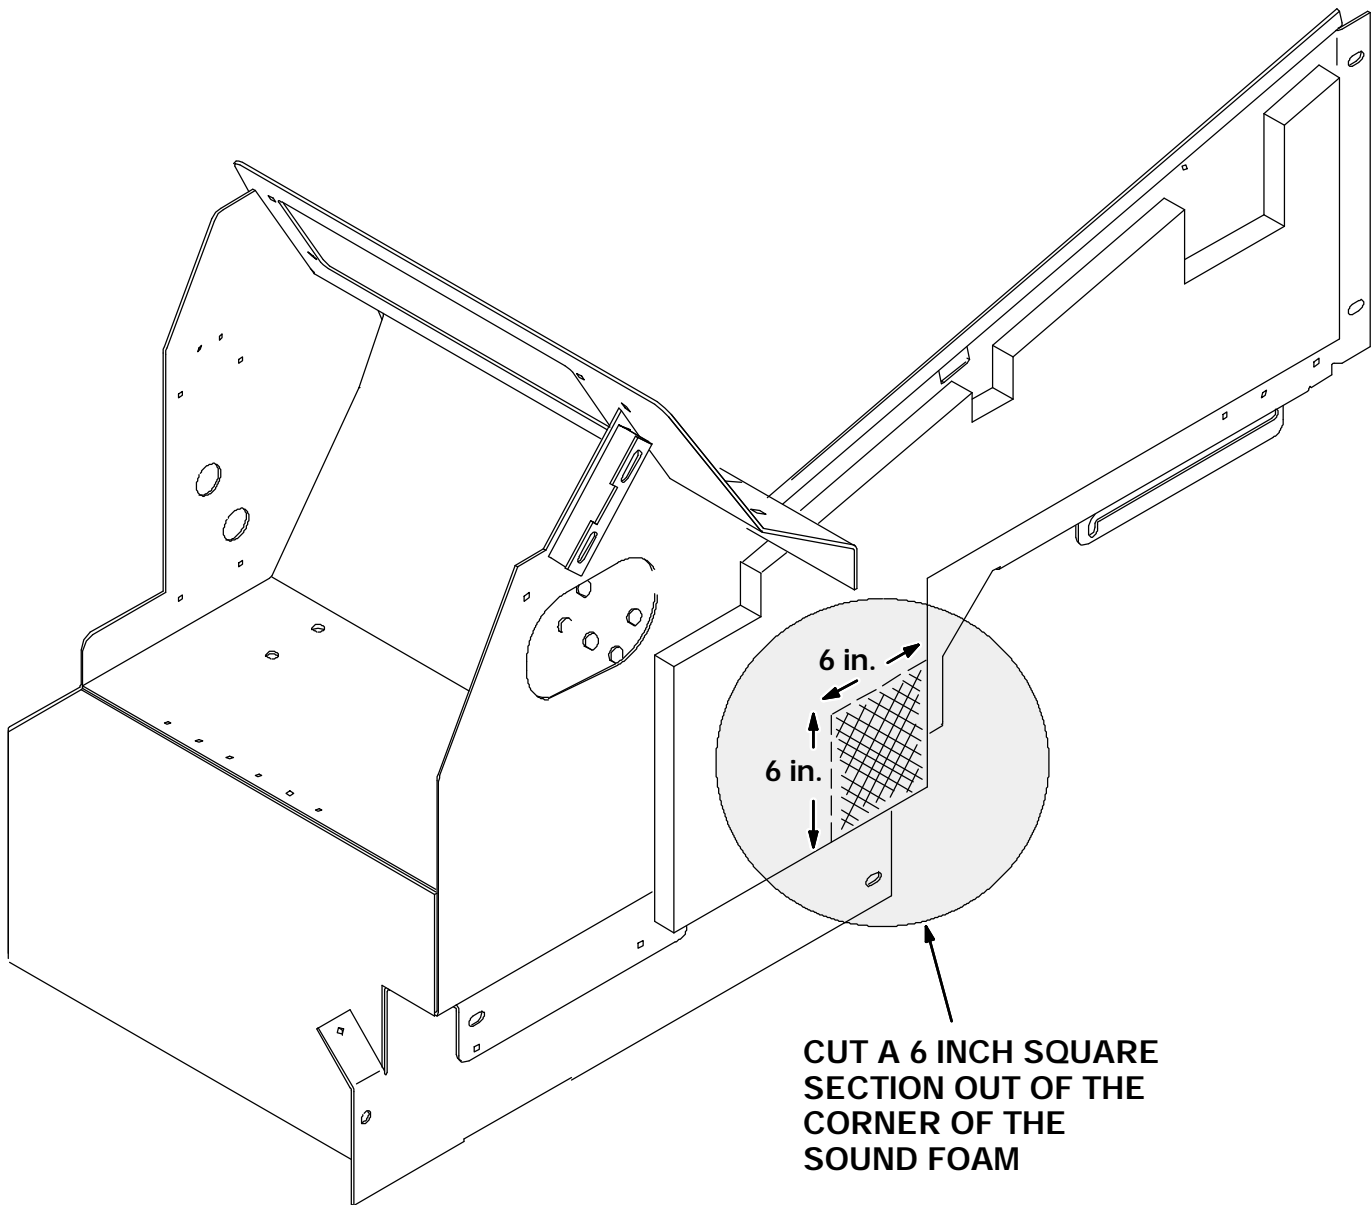

FIG. 1 - Sound Foam Re-work
(Refer to FIG. 1, 2 and 3)
(Refer to FIG. 1)
3. Move any hydraulic or LP hoses away from the area where the new intake tube (1) will be installed.
4. Cut a 6 inch by 6 inch corner from the sound foam. (Refer to FIG. 1)